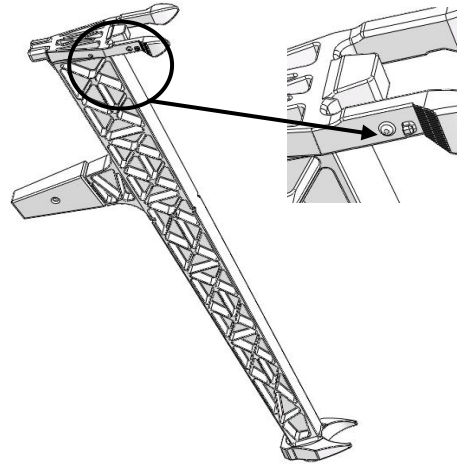

Figure 4
- 3) Marking on the corresponding position of the 6 landing gears as Figure 4.